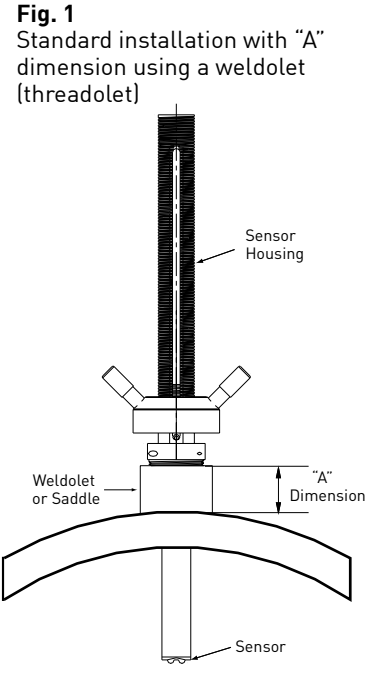

Fig. 1 Standard installation with "A" dimension using a weldolet (threadolet)
- For retrofit installations, the stack height, or "A" dimension (see Fig. 1), is the overall height from the top of the pipe to the highest point of the stack before the sensor is connected.
- For new installations, Signet recommends a weldolet (threadolet) and an adapter to accommodate the 1.25 in. sensor process threads. The stack height, or "A" dimension (see Fig. 1), is the overall height from the top of the pipe to the highest point of the stack.